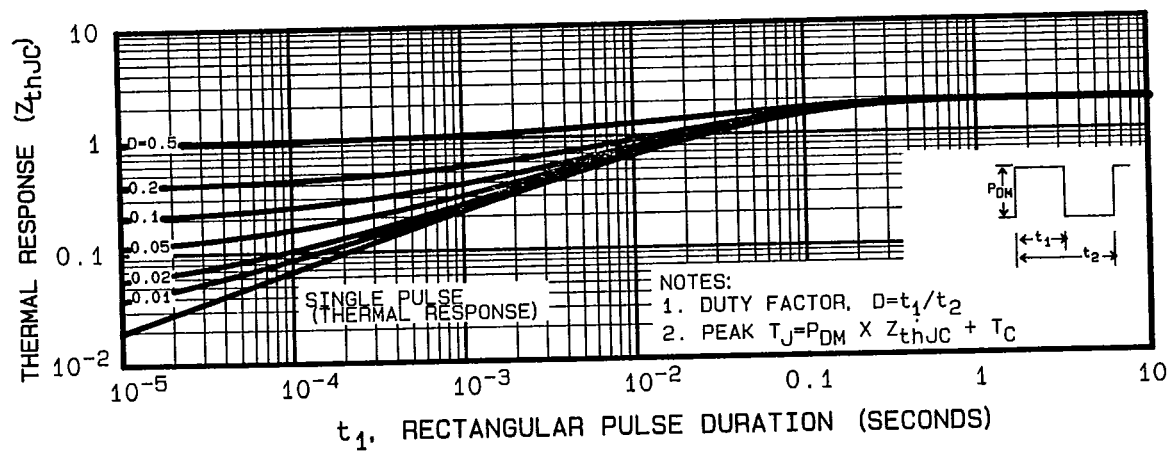

Fig. 5 — Maximum Effective Transient Thermal Impedance, Junction-to-Case Vs. Pulse Duration
① Repetitive Rating; Pulse width limited by maximum junction temperature (see figure 5) Refer to current HEXFET reliability report
③ $I_{SD} \leq 14\text{A}$, $dI/dt \leq 140\text{A}/\mu\text{s}$,